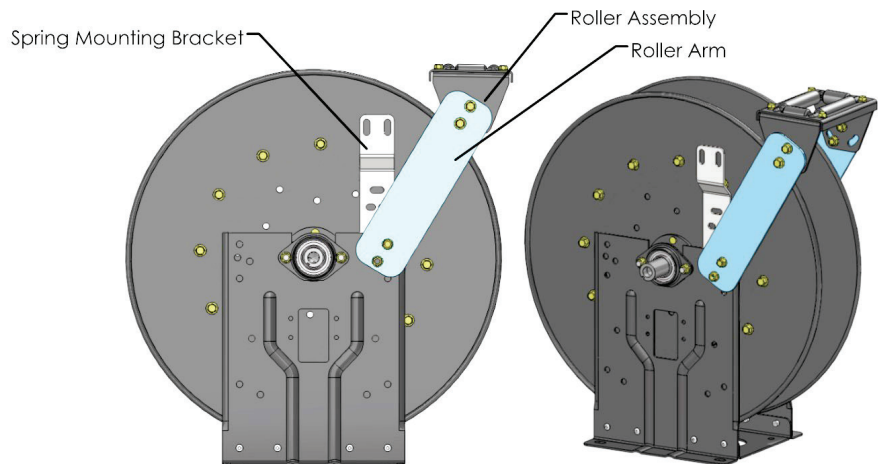

Figure 6 - Reel with Rollers in the “VR” Position
4. Swing the Roller Arms up to the VR position (Figure 6), until the holes on the roller and the spring brackets line up with the holes in the frame, replace and tighten the bolts.
6. Rotate the roller assembly so that it is pointed in the same direction as shown in Figure 6.